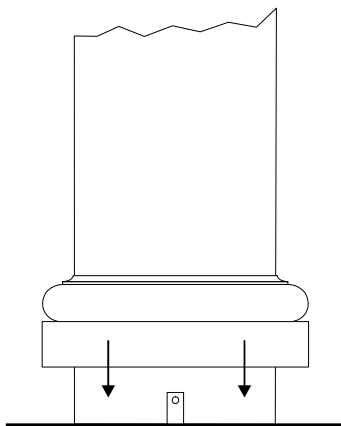

Figure 1
3. Slip capital and base onto shaft, and secure column in place using metal "L" brackets. Brackets 1-1/2" x 1-1/2" should be used 6" on center. It may be necessary to split the capital into halves to allow for attachment of the angle brackets to the beam/soffit. NOTE: Always drill clearance holes in column shaft and secure angle brackets with bolts. - DO NOT USE SCREWS - DO NOT OVER TIGHTEN. (See Figures 1 & 2 below.)